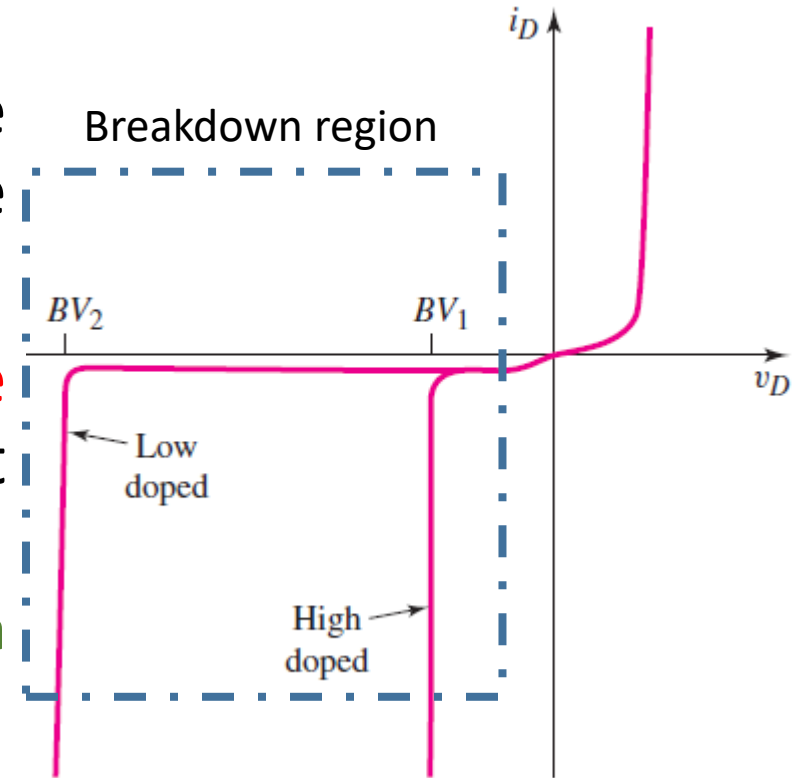

Figure 1.21
- The current–voltage characteristic of a diode in breakdown is shown in Figure 1.21.